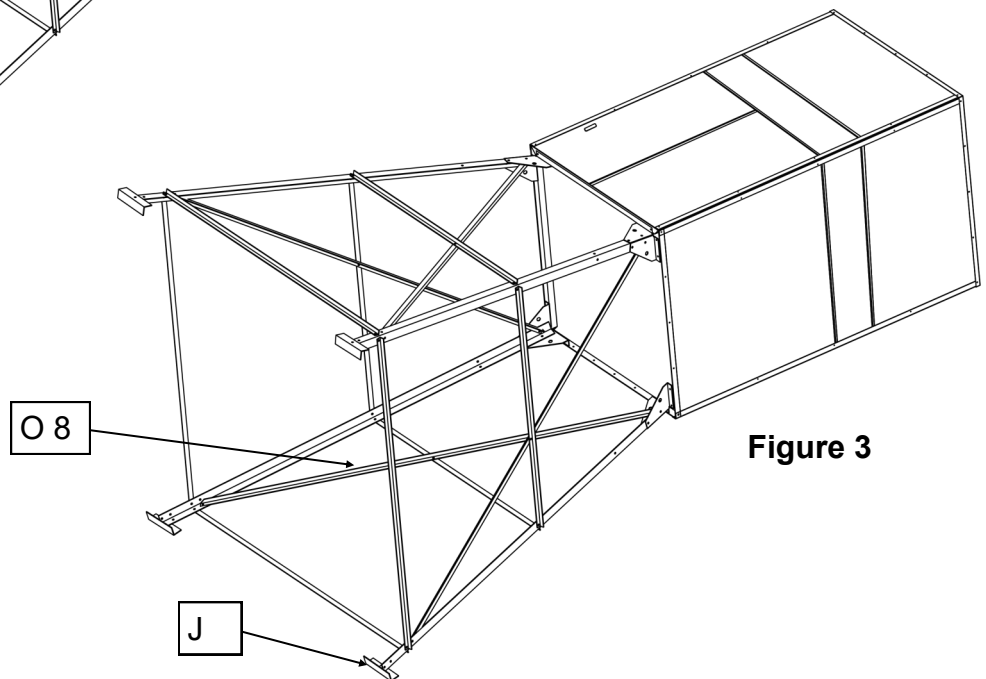

Figure 3
Step 3: Install the **Diagonal Bracing** (O 8) as shown. Be sure to bolt the intersection where **Diagonal Bracing** meets **Upper Horizontal Bracing** (N 8) on all four sides. (*Figure 3*)
Step 4: Attach the **(J) Feet** (*Figure 3*)